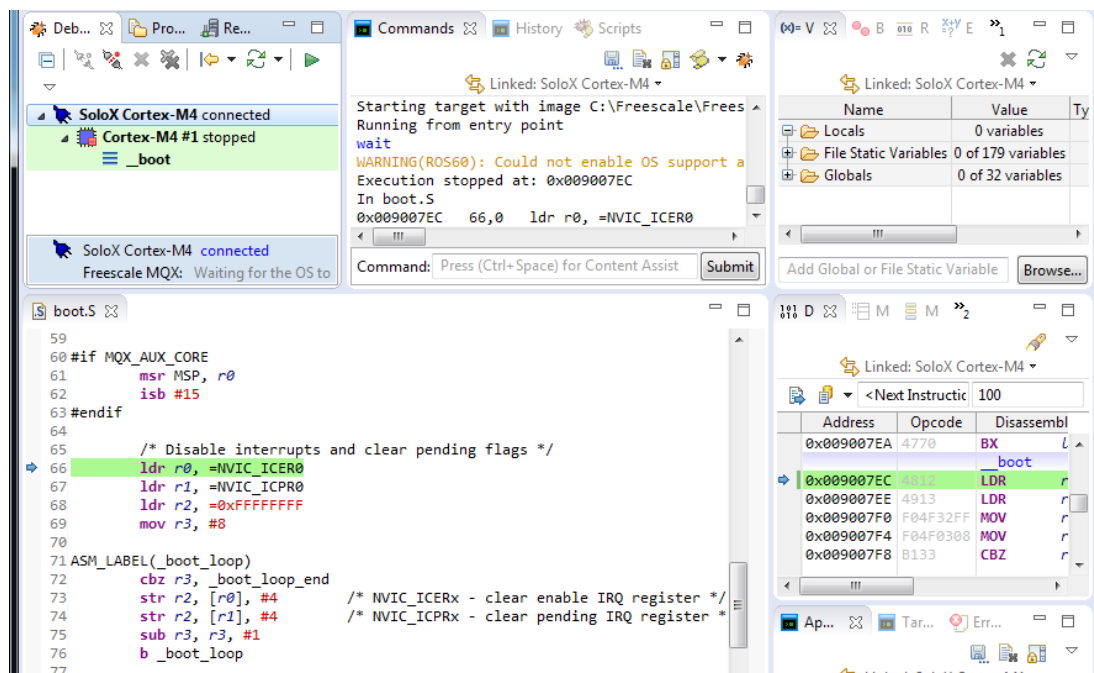

Figure 14 - Active debug session
9. Click the “Apply” button and then the “Debug” button to initiate a debug session. When the application has been downloaded to the target it could look like Figure 14.